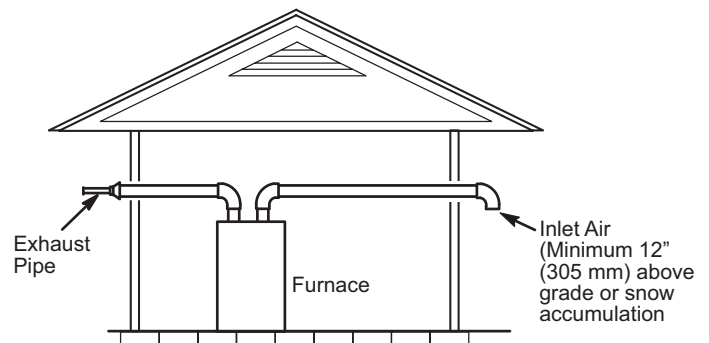
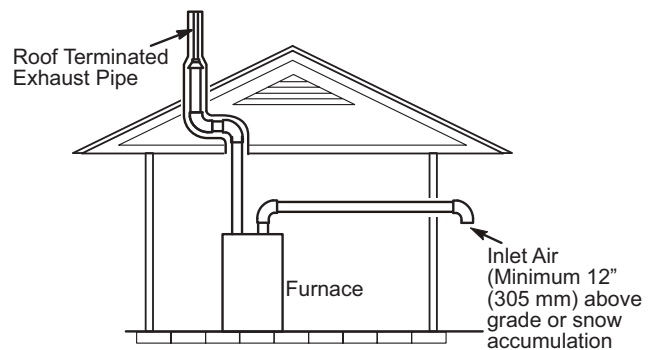

Figure 26. Exiting Exhaust and Intake Vent (No Common Pressure Zone)
Figure 27. Existing Exhaust and Intake Vent (No Common Pressure Zone)
1. Intake and exhaust terminations are not required to be in the same pressure zone. You may exit the intake on one side of the structure and the exhaust on another side (**Figure 26**). You may exit the exhaust out the roof and the intake out the side of the structure (**Figure 27**).